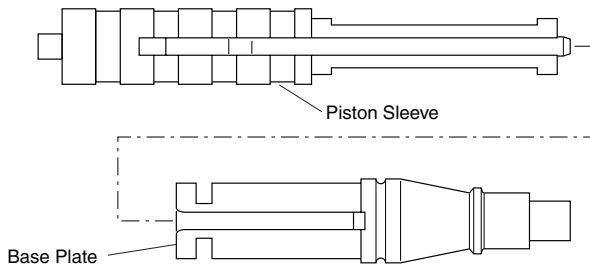

Figure 3 - Separating Base Plate From Piston Sleeve
4. Remove shear clip from barrel assembly (see item 19, page 17, for shear clip location).
5. Separate base plate from piston sleeve (see Figure 3).